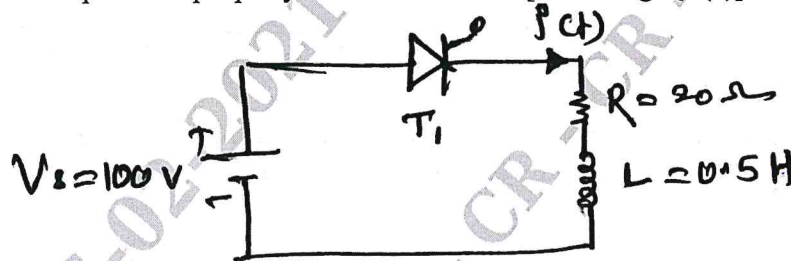

Fig Q5(c)
- c. A SCR is connected in series with a 0.5H inductor and 20Ω resistance. A 100V DC voltage is applied to this circuit. If the latching of the SCR is 4mA. Find the maximum width of the gate trigger pulse required to properly turn-on the SCR. [Refer Fig Q5(c)]